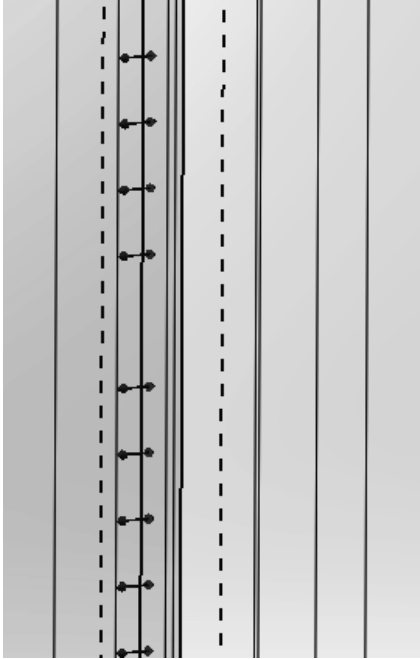

Figure 2.18b) Outlet static pressure boundary condition
18. Red arrows pointing in the flow direction appears indicating the inlet velocity boundary condition; see figure 2.17d). Right click in the graphics window and select **Zoom to Fit**. Right click again in the graphics window and select **Rotate View** once again to rotate the part so that the inner right surface is visible in the graphics window. Right click and click on  **Select**. Right click on  **Boundary Conditions** in the **Flow Simulation analysis tree** and select **Insert Boundary Condition...** Right click on the outflow boundary surface and select **Select Other**. Select the Face corresponding to the outflow boundary. Click on the **Pressure Openings** button in the **Type** portion of the **Boundary Condition** window and select **Static Pressure**. Click OK to exit the window. If you zoom in on the outlet boundary you will see blue arrows indicating the static pressure boundary condition; see figure 2.18b).